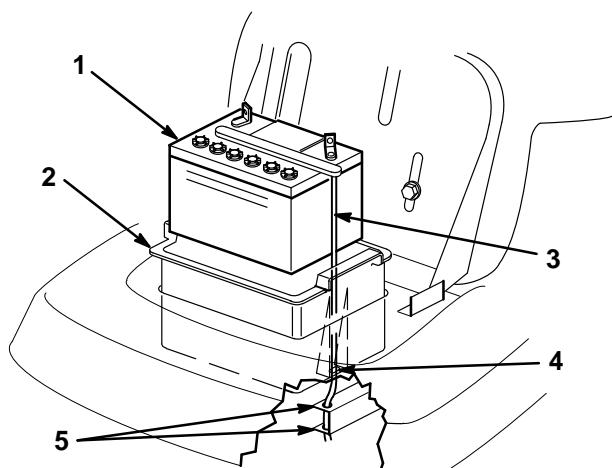

Figure 22
5. Remove the battery box, battery, and long vent tube from the chassis (Fig. 22).
1. Put the battery into the battery box and slide the vent tube into the channel and through the slot in the bottom of the box (Fig. 22).
IMPORTANT: Look down into the cut out area where the battery box fits into the chassis. Notice the hole at the end of the right frame member (Fig. 22). Always install the long battery vent tube through the hole to prevent battery acid from corroding the tractor and mower.
2. Install the battery box and battery into the chassis (Fig. 22). Make sure to slide the end of the vent tube through the hole in the frame (Fig. 22).